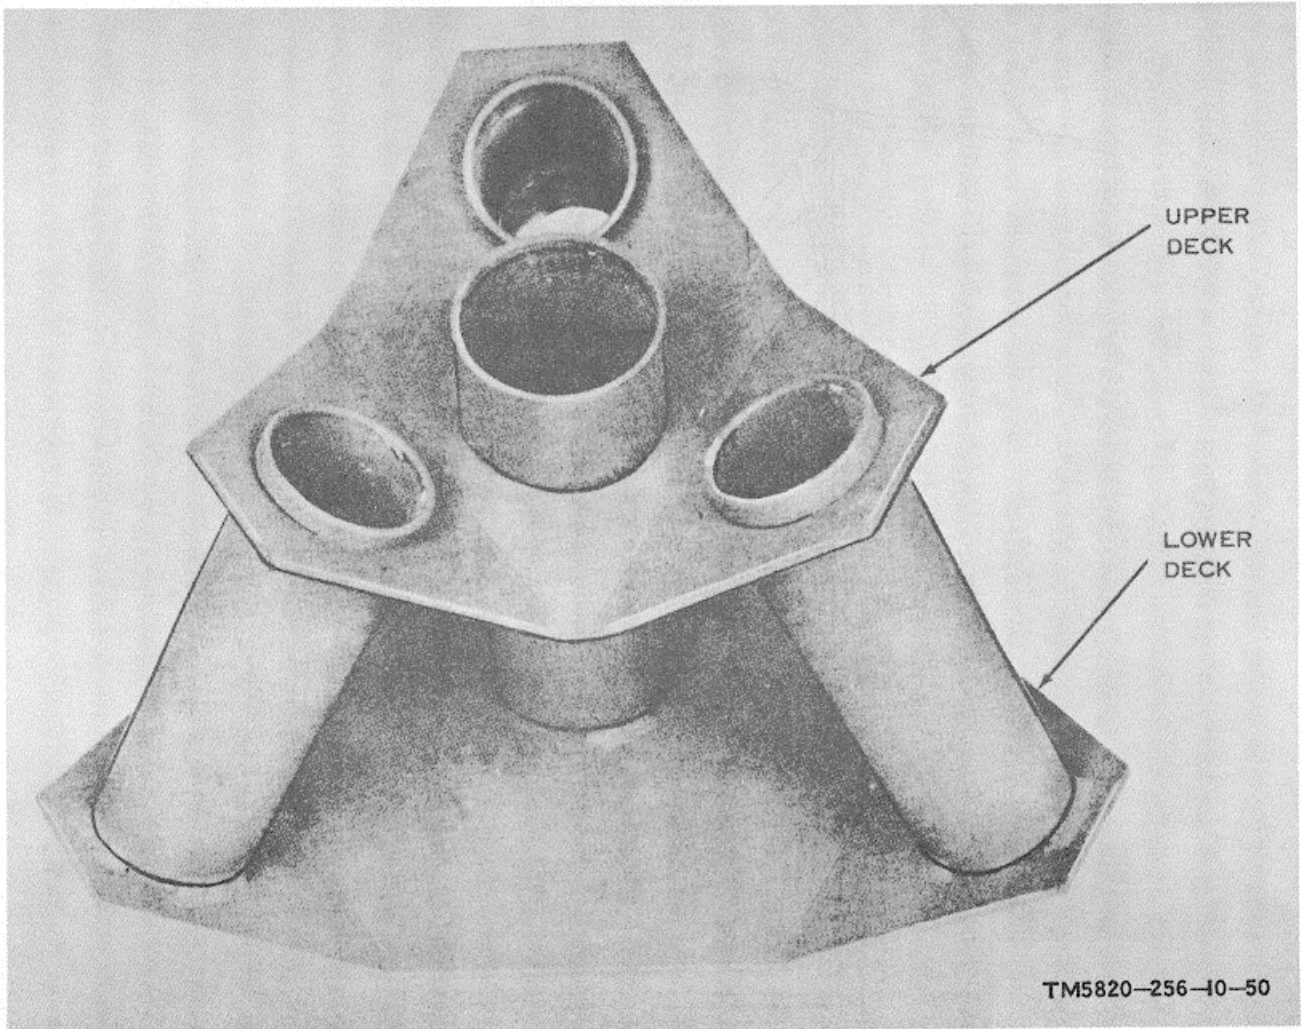

Figure 2-10. Tripod Adaptor, Mast, AB-1089/U
g. Erection of Doublet Antenna Using Tripod Adaptor Mast AB-1089/U. The tripod mast adaptor (fig. 2-10) was designed to provide a stable antenna mast which can be erected quick